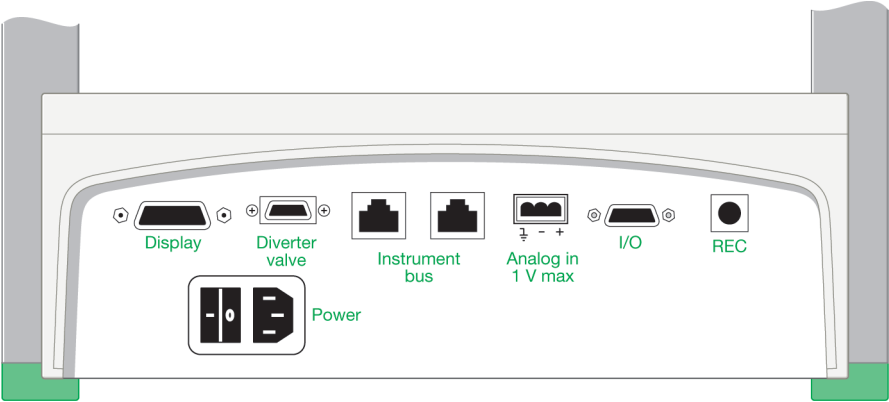

Fig. 5. Rear panel connectors.
2. Connect the fraction collector display cable to the port labeled Display on the back of the fraction collector. (See Figure 5 on page 10.)
3. Connect the diverter valve cable to the Diverter Valve port on the back of the fraction collector. (See Figure 5 on page 10.)